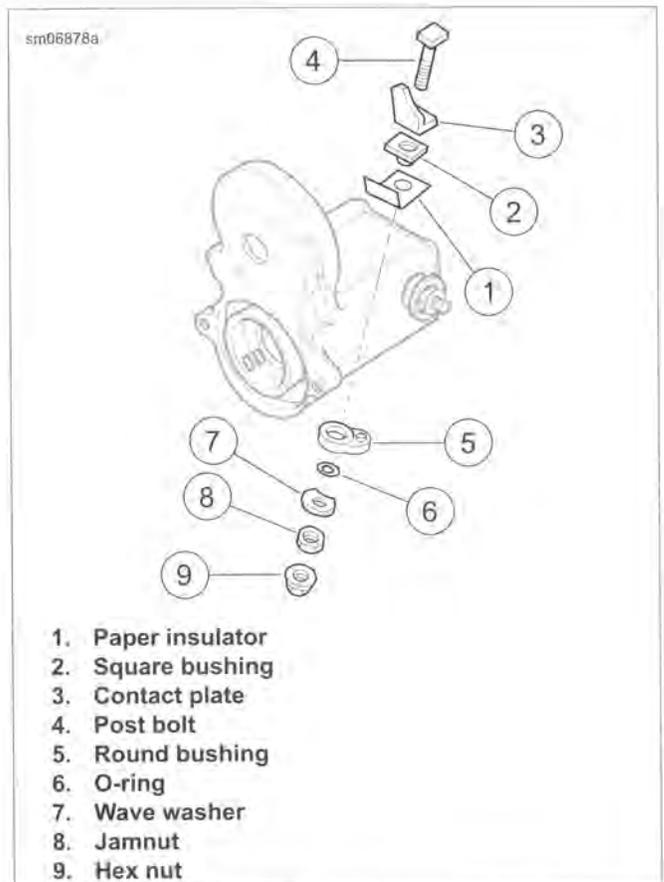

Figure 7-12. Long Post Contact (battery)
1. See Figure 7-12. Remove the long post contact:
- a. Remove hex nut (9).
- b. Remove jamnut (8), wave washer (7), O-ring (6) and the round bushing (5).
- c. Remove post bolt (4), contact plate (3), square bushing (2) and paper insulator (1).